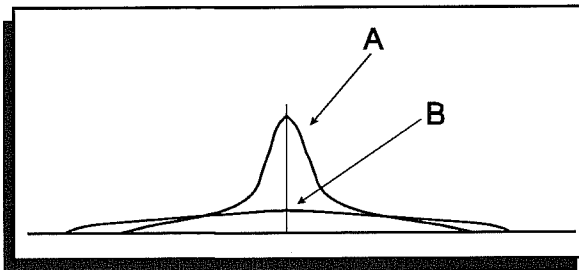

Figure 1 -
printed underneath each slider are optimistic. While they *do* affect the desired frequency, boost or cut also affects adjoining bands you may not want to adjust. Figure 1 shows how a conventional (non-constant-Q) equalizer can only achieve a specified bandwidth at one boost setting (A). When the amount of equalization is